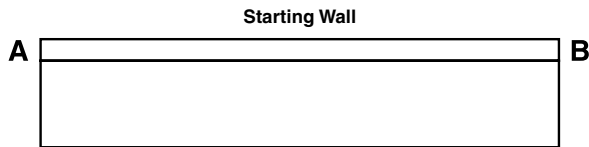

Figure 1
- 1. When only one working line is needed, establish the line by measuring an equal distance from the starting wall at both ends as in Figure 1. This distance should be multiple of 4 1/2" plus 1/4" for an expansion space.